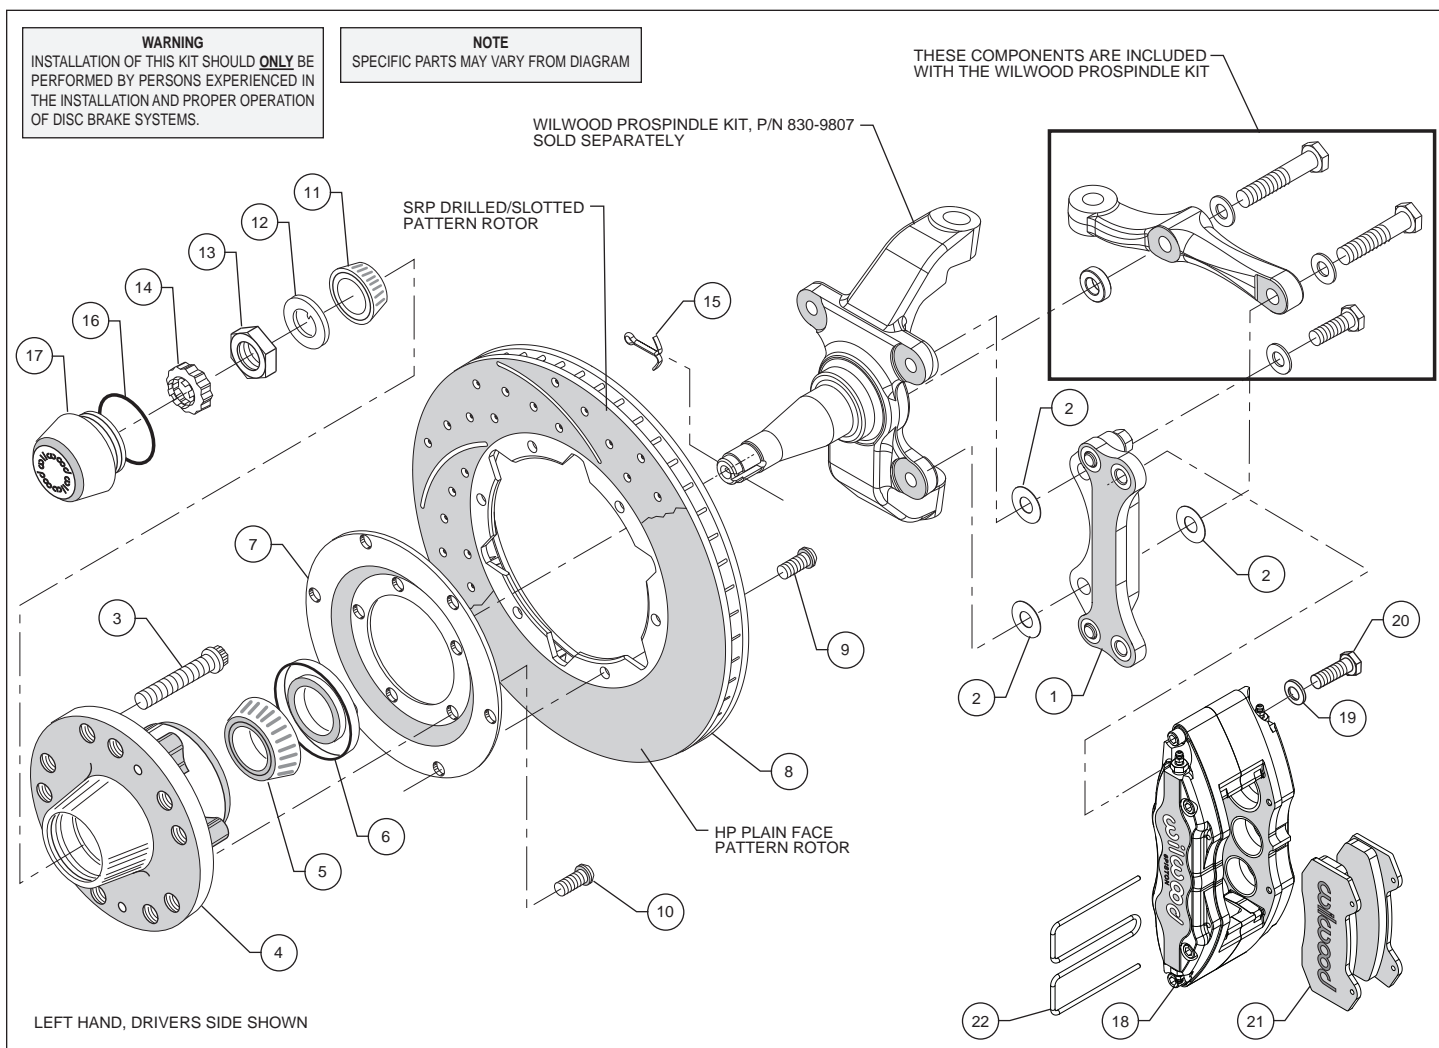

Figure 1. Typical Installation Configuration
- The caliper mounting bracket assembly (1) in conjunction with the Wilwood ProSpindle (P/N 830-9807, includes three mounting bolts, three washers, and a spacer, kit sold separately) should be installed first with clean, dry threads on the mounting bolts. Install the bracket on the inboard side of the spindle by sliding the 1.25" long bolt from the ProSpindle kit through a flat washer, also from the ProSpindle kit, through the top hole of the caliper mounting bracket (1) and into the upper rear spindle mounting ear hole, do not tighten at this time. Use two thin shims (2) between the bracket (1) and spindle during initial trial fitting. Slide the 2.00" long bolt from the ProSpindle kit through a flat washer, through the rear (thinner end) hole on the steering arm, through two shim washers (2), through bottom hole of mounting bracket (1), through another two shim washers (2), and finally into the lower rear spindle mounting hole. The bracket (1) is positioned between the steering arm and the spindle for the bottom bolt installation. The bracket and shim washers for the lower rear mounting must be a thickness of $.550 \pm .010$ ". Again, do not tighten. Finish installing the steering arm assembly by sliding the 2.25" long bolt through flat washer, then through the front (thicker end) hole of the steering arm. Place the .25" thick spacer between the steering arm and the backside of the spindle. Snug all three bolts. The bracket must tighten squarely against the inboard side of the caliper mounting bosses on the spindle body. Inspect for interference from casting irregularities, machining ridges, burrs, etc. **NOTE:** Be sure the heads of the caliper bracket (1) insert nuts are facing outward toward the wheel.
- Install wheel studs (3) into the hub (4). Torque to 77 ft-lb. **NOTE:** There are two lug patterns of five holes each in the hub (5 x 4.50 and 5 x 4.75). Make sure of the correct hole pattern for the wheel application before installing the studs into the hub.
- Orient the rotor (8) and the rotor adapter (7) as shown in Figure 1. Attach the rotor to the adapter using bolts (9). Using an alternating sequence, apply red *Loctite*® 271 to the threads, and torque to 25 ft-lb.
- Mount the adapter/rotor assembly (7/8) to the hub (4) using bolts (10), as shown in Figure 1. Using an alternating sequence, apply red *Loctite*® 271 to the threads, and torque to 55 ft-lb.
- Pack the large inner bearing cone (5) with high temperature disc brake bearing grease (available from your local auto parts store) and install into the backside of the hub (4).
- Install the grease seal (6) by pressing into the backside of the hub (4).
- Pack the small outer bearing cone (11) with high temperature disc brake bearing grease and install into front of hub (4). Slide the hub assembly (4, 5, 6 and 8) with outer bearing cone (11) onto the spindle. Secure using spindle washer (12), adjusting nut (13) and nut retainer (14). secure to spindle using cotter pin (15). Adjust bearing using a 12" wrench to tighten the adjusting nut while turning the rotor. When the rotor binds slightly, all the bearing parts are seated properly. Back of the nut 1/6 to 1/4 of a turn or enough to allow 0.001 to 0.007 end play. Lock the nut with a new cotter pin. **WARNING:** Failure to back off the adjusting nut may cause the bearing to run hot and be damaged, which could cause the wheel to lock or come off during operation, creating a risk of serious bodily harm.
- Install the o-ring (16) and the dust cap (17) onto the hub (4). Friction created by the o-ring (16) on the dust cap (17) keeps it from unscrewing on its own.
- NOTE:** Please reference the caution statement at the beginning of the assembly instructions. This kit contains distinct right and left hand calipers that must be mounted in a specific direction, as described below. Mount the caliper (18) onto the caliper bracket (1) using washers (19), and bolts (20), as shown in Figure 1. Ensure that the caliper is mounted so the largest pistons are at the rotor exit end of the caliper, in relation to the direction of rotor rotation. Temporarily tighten the mounting bolts and view the rotor (8) through the top opening of the caliper (18). The rotor (8) should be aligned in the center of the caliper. If not, adjust the bracket by using 0.016 inch thick shims (2) placed between the bracket (1) and the spindle, or between the spindle and the steering arm, whichever is applicable to gain the proper caliper/rotor alignment. Both the top and bottom of bracket must have the same thickness of shims between bracket and spindle. Finger tighten and recheck alignment. Once everything is properly aligned, Apply red *Loctite*® 271 to the ProSpindle bolt threads and torque to 47 ft-lb. Then apply red *Loctite*® 271 to caliper mounting bolt threads (20) and torque to 40 ft-lb.
- Install the disc brake pads (21) and secure using the pad clip retainer (22).